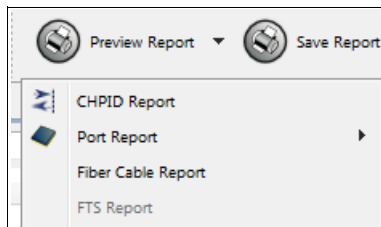

Figure 4-34 Reset CHPID assignments warning message
3. Click **OK** to confirm the reset (see Figure 4-34).